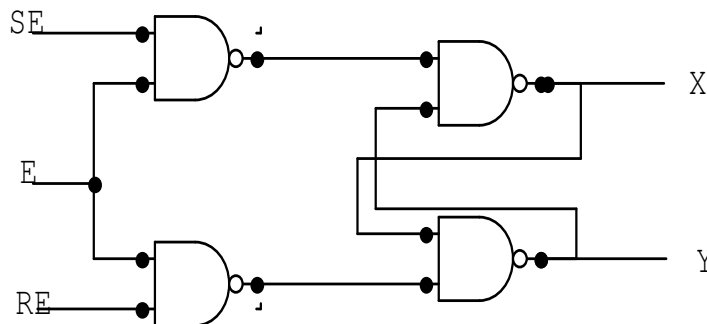
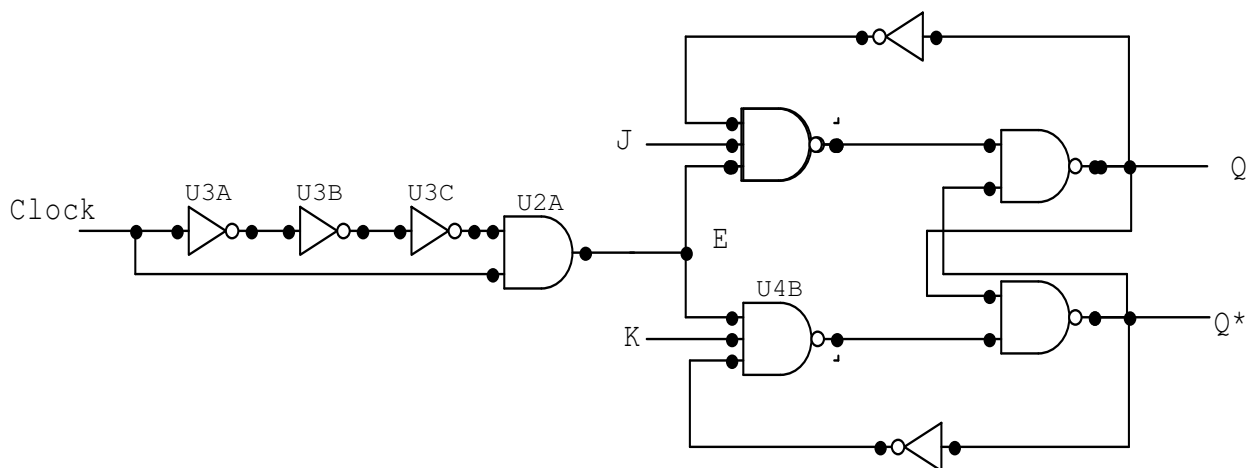

Figure 4.6: Gated R-S Latch with Enable
Figure 4.9: Edge-Triggered J-K Flip-Flop
- Figure 4.6 shows a gated latch designed to respond to the **SE** and **RE** control signals when the latch is enabled (by **E**). Note that when the latch is disabled (**E** = 0) the outputs (**X** and **Y**) remain in their current state. This condition corresponds to the **S* = R* = 1** state of the R*-S* latch of Part 4.1. If the latch is enabled (**E** = 1) this circuit operates identically to that of the R*-S* latch of Part 4.1 except that the inputs (**SE** and **RE**) are inverted. You need not fabricate this circuit, merely understand its operation, and explain how it works.
Convert the Gated R-S Latch of Figure 4.6 into an Edge-Triggered Flip-Flop by connecting the output of the edge detector to the enable input (E) of the latch. In anticipation of the construction of the circuit of Part 4.3 (Figure 4.9), you should use three input NAND gates. Instead of using the Clock or the Function Generator as a source of clock pulses, connect the output of a Logic Bit Input Momentary Contact Pushbutton Switch to the Clock input of the Edge-Detector. Depressing and releasing this pushbutton switch generates one "clock" pulse. With the switches and LEDs connected to the circuit, study how the inputs affect the outputs. Do the outputs change on the rising edge (positive-edge triggering) or on the falling edge (negative-edge triggering) of the clock? Note that this circuit produces a very narrow pulse which, if the gates are fast enough, will be insufficient to switch the flip-flop. If this is the case you may consider widening the pulse by inserting an additional two inverters in series with the existing three.
1. Construct the J-K circuit of Figure 4.9 which is obtained from the edge-triggered R-S flip-flop by adding feedback. Use type 00 NAND gates for the two inverters in the feedback loop. Make sure that the two gates used to form the two inverters are on the same chip so the propagation delays are the same. Note that the timing of this circuit is critical for the input combination $J = K = 1$. For this input combination, only one of the (three-input) input gates is enabled; the inverters in the feedback loop from Q and Q^* insure that the (single) input gate is enabled which causes the output to toggle (change states). For example, if the flip-flop is in the $Q = 1$ state only the lower input gate is enabled, so that on the next clock pulse (for $J = K = 1$) the flip-flop is reset to $Q = 0$. The critical timing arises from a "race" between the width of the clock pulse (three propagation delays) and the (four propagation delay) path which enables the opposite input gate. For the input combination $J = K = 1$, the leading edge of the clock will initiate the state change of the flip-flop (which will take three propagation delays to complete). This change is reflected back to the input after four propagation delays. By this time the clock pulse would have gone away lest a second flip-flop transition be gated through the input gates. Normally this circuit is self-contained within a single integrated circuit so that the gate delays can be controlled and the stability guaranteed.